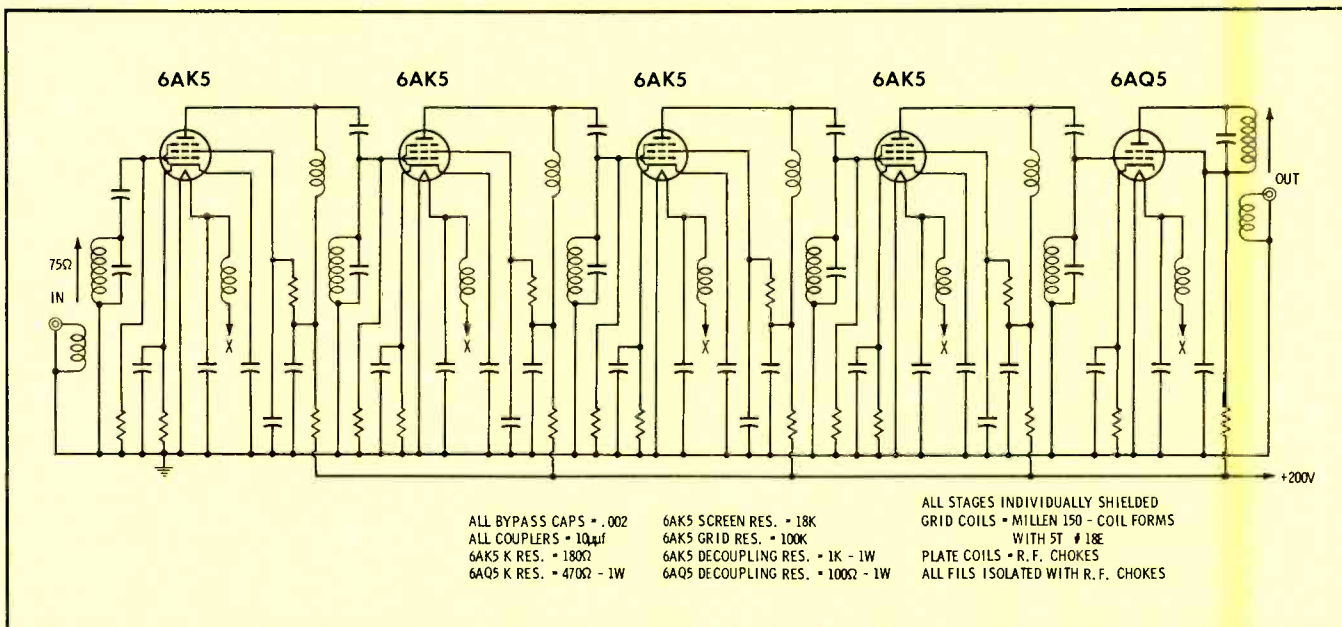

Fig. 13. Booster used to operate frequency-and-modulation monitor must be capable of furnishing several watts of RF power.
frequency and modulation, was placed in the studio and fed from a five-stage broadband TRF amplifier (Fig. 13).
2. Move the monitors to the control point and feed them RF from a pickup antenna and RF amplifier (such as was shown in Fig. 13).